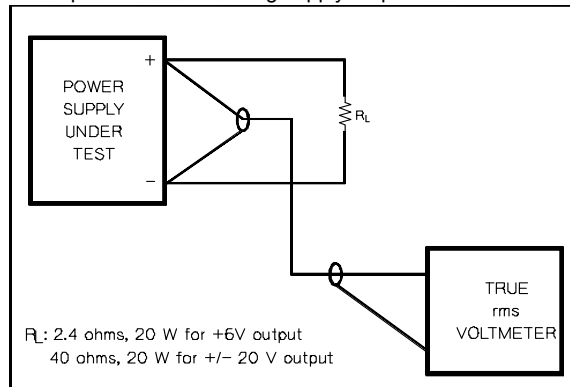

Figure A-7. Ripple and Noise rms Measurement Test
- a. Connect the test equipment across the output of the +20V supply as shown in Figure A-7.
- Connect the test equipment across the output of the +20V supply as shown in Figure A-7, but replace the true rms voltmeter with the oscilloscope.